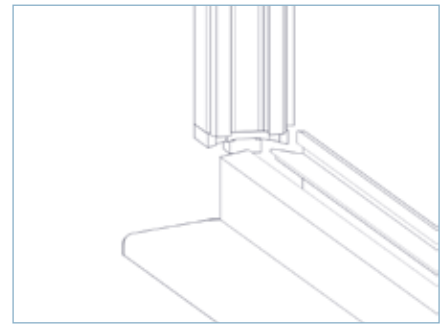

FIG 4A
- ▶ 4.4. Position the jambs into the tracks using the connectors provided as shown in FIG 4A.